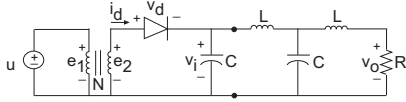

Figure 1: Voltage supply circuit.
Figure 1 shows a circuit for implementation of a DC voltage supply. The input $u(t)$ is the household AC wall outlet that is modeled as a voltage source
1. Construct and simplify the bond graph for the half-wave rectifier circuit in Fig. 1.
where v_i is defined in Fig. 1, i_L is the current through the left inductor (positive to the right), v_f is the voltage across the right capacitor (positive on top), and i_o is the current through the right inductor (positive to the right) and the load resistor.